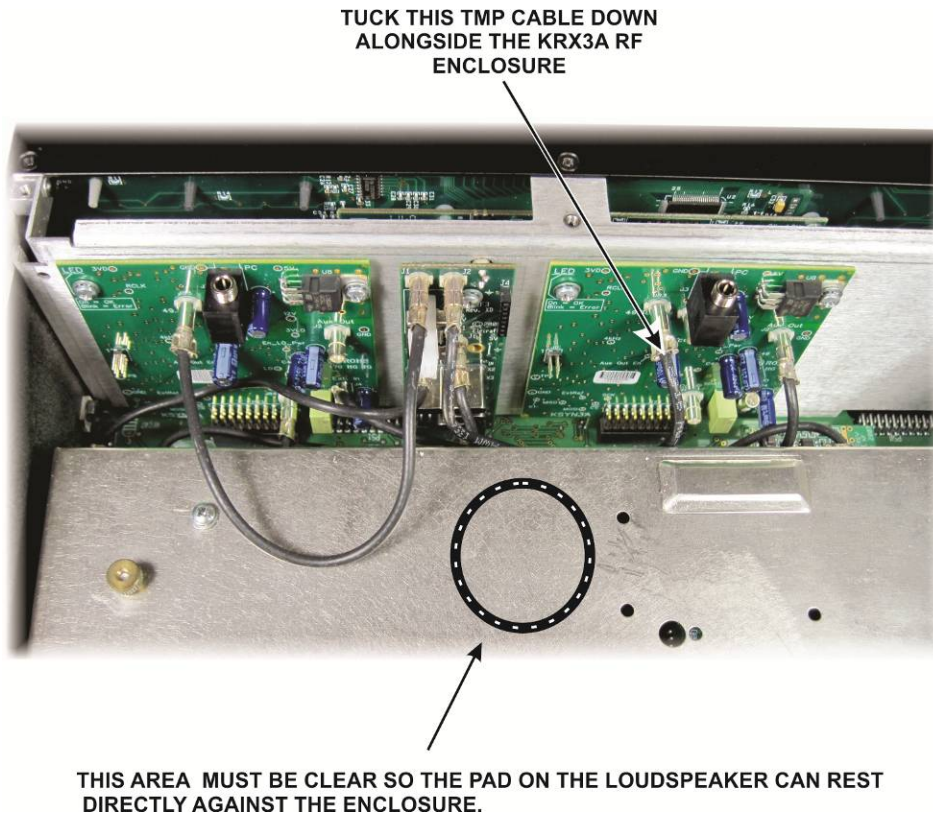

Figure 52. Positioning TPM Cable to Avoid Interference with the Speaker Pad.
- Be sure the TPM cable between the KXREF3 and Main KSYN3A board does not lie on the area where the speaker pad will press against the KRX3 top cover (see Figure 52). Tuck the cable down alongside the KRX3A enclosure as shown.